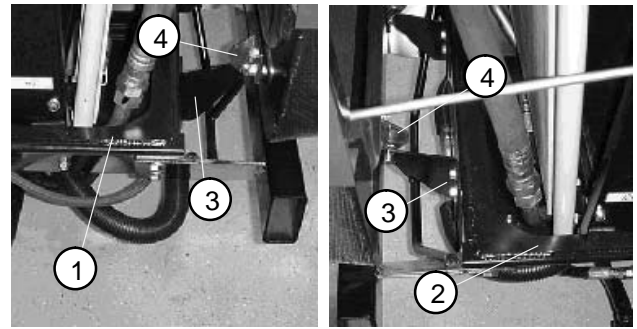

Figure 14
A. Place shim (3/8" to 7/16" thick) on top of frame (both RH and LH sides) near the sides of oil cooler (Fig. 14).